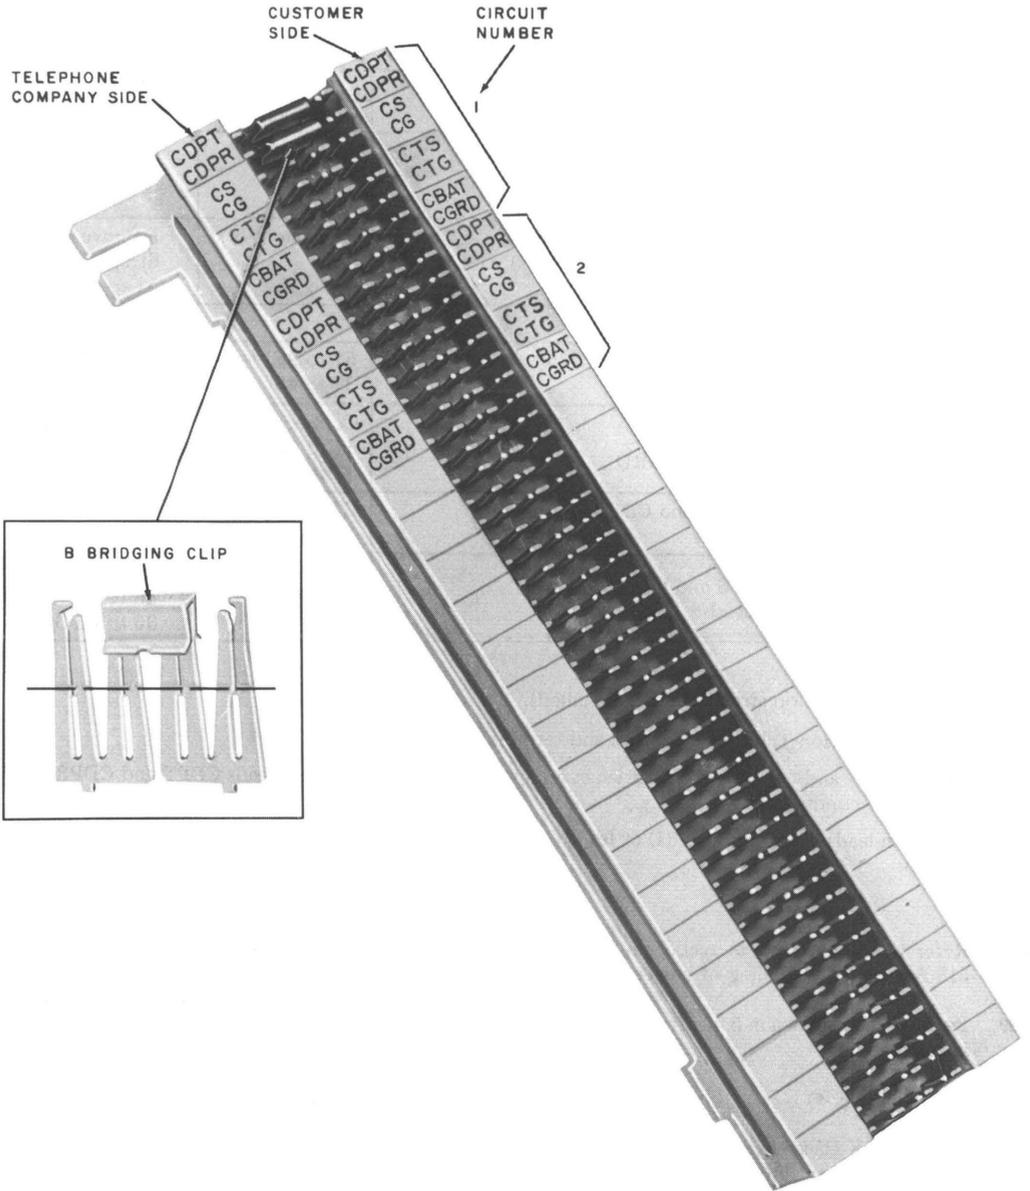

Fig. 2—66M1-50 Interface Connecting Block
- Block, Connecting, 66M1-50 (Fig. 2)
**3.05** Use "D" inside wiring cable, or equivalent, to terminate the leads associated with the CPE on the interface connecting block. The CDPT, CDPR, CS and CG leads are always used. If the CGRD and CBAT leads or CTS and CTG leads (options Q and T) are not used, do not run them to the interface block. Stencil lead designations on interface connecting block designation strip (see Fig. 2).